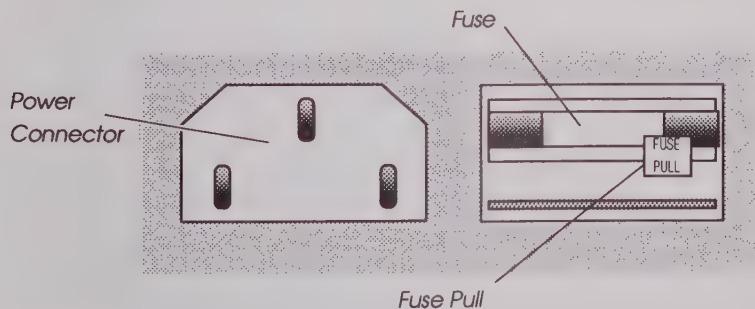

Figure 3-1. Power Input Plug and Fuse
1. Disconnect the power cord at the instrument. Open the fuse holder cover door. Rotate the fuse pull to the left to remove the fuse; refer to figure 3-1.